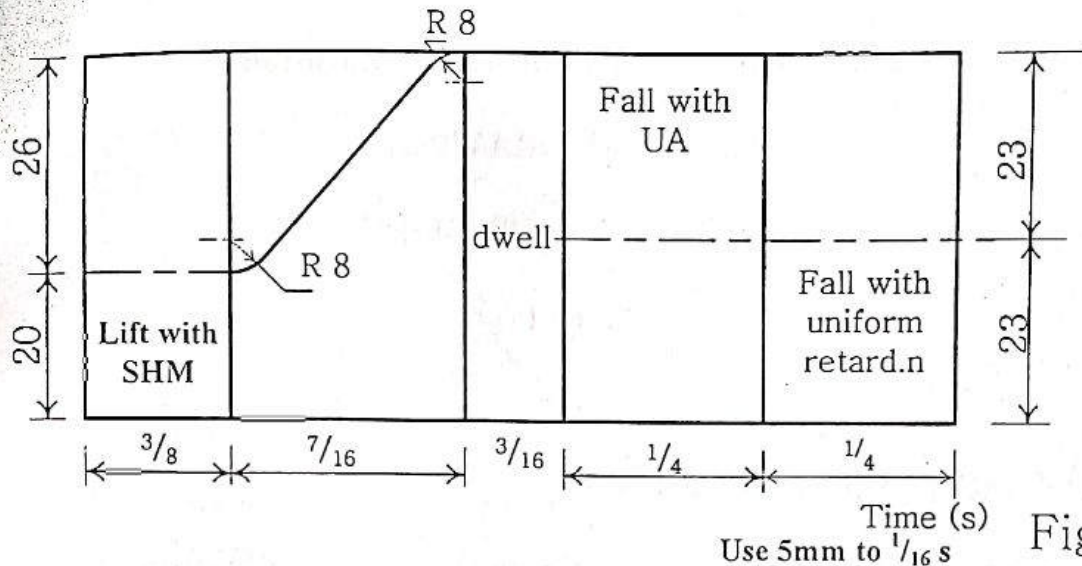

Fig.1
1. The displacement curve for a radial cam to rotate clockwise at 40 Rev/min is shown incompletely drawn in fig.1 below. Complete the graph to the given scale and construct the cam profile if the roller follower is 20mm diameter with its line of action offset 32mm to the left of the vertical center line of the cam. The nearest approach of the roller center to the cam center is to be 40mm and the cam shaft diameter is to be 25mm.